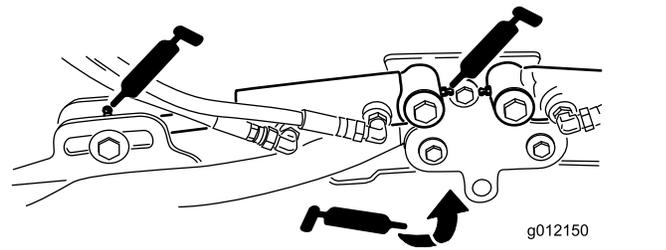

Figure 71
- Cutting-unit lift-arm cylinders (2 each) (Figure 71)
- Lift-arm pivots (1 each) (Figure 71)